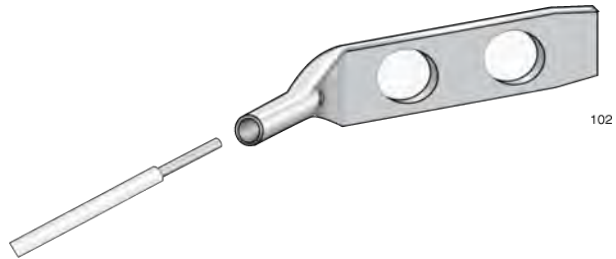

Figure 51. Attaching the Grounding Wire to the Grounding Lug
3. Insert one end of the grounding wire into the grounding lug, as shown in Figure 51, and use a crimping tool to secure the wire to the grounding lug.